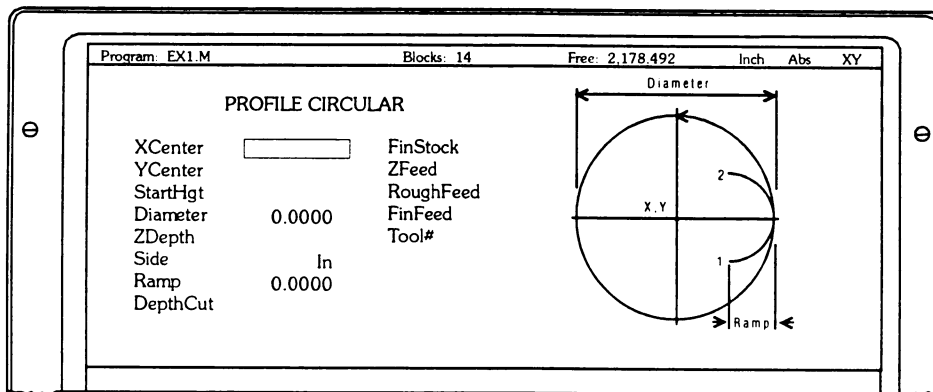

Figure 5, Circular Profile Screen Diagram
2. Machine feeds into the profile along Ramp #1, cuts profile to the **Diameter** specified, then ramps away from the work along Ramp #2, see *Figure 5. Circular Profile Screen Diagram*.
press (ENTER), (PROFILE CIRCULAR screen diagram displays, see *Figure 5. Circular Profile Screen Diagram*).